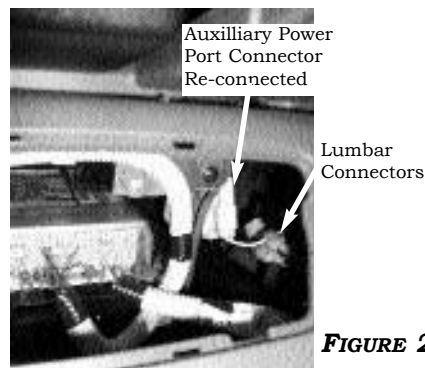

FIGURE 25
5. RE-CONNECT THE ACCESSORY PORT CONNECTOR **FIGURE 25**, AND REASSEMBLE CENTER CONSOLE.